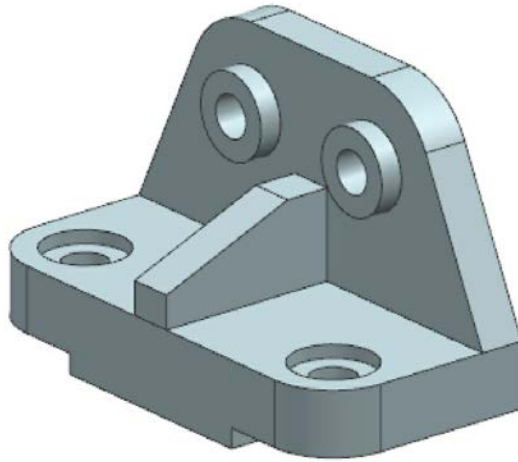
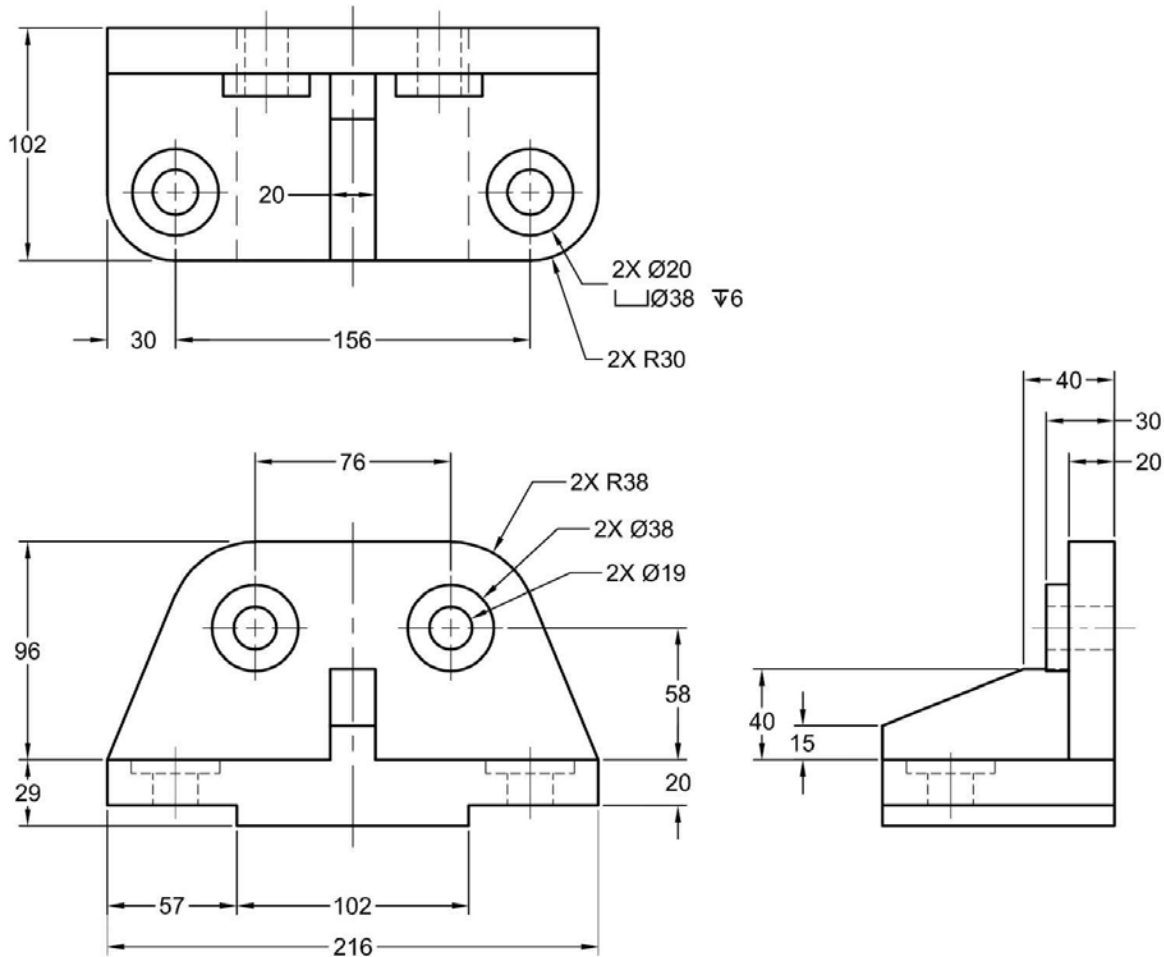
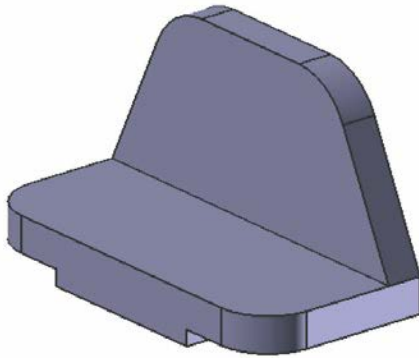
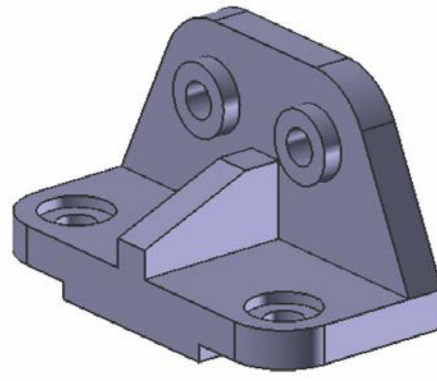

Figure 7-92 Model for Tutorial 1
Figure 7-93 Views and dimensions of the model
Figure 7-96 Model after creating the edge blend feature
Figure 7-101 Final model for Tutorial 1
In this tutorial, you will create a model of the Fixture Base shown in Figure 7-92. The dimensions of the model are shown in Figure 7-93. **(Expected time: 30 min)**
- Create the edge blend feature to fillet the two vertical edges of the base feature, refer to Figure 7-96.
2. Create the sketch for the base feature on the XC-ZC plane. For dimensions, refer to Figure 7-93. Make sure that the sketch is symmetric about the YC-ZC plane because it will be used as the mirror plane at a later stage. Extrude the sketch symmetrically on both sides of the sketching plane through a symmetric distance of **51**. The base feature of the model along the XC-ZC plane is shown in Figure 7-94.
1. Create the second feature, which is an extruded join feature by using the back face of the base feature as the sketching plane, refer to Figure 7-95. For dimensions, refer to Figure 7-93.
1. Create the edge blend feature on the front vertical edges of the base feature, refer to Figure 7-96. For dimensions, refer to Figure 7-93.
1. Invoke the **Hole** dialog box by choosing the **Hole** tool from the **Feature** group and specify the parameters of the counterbore hole in it. Refer to Figure 7-93 for parameters.
1. Select the front face of the second feature and then draw the sketch of the extruded join feature, which is a circle. For dimensions, refer to Figure 7-93.
1. Invoke the **Hole** dialog box and specify the parameters of the simple hole in it, refer to Figure 7-93 for parameters.
1. Create the last feature, which is also an extruded join feature. The sketch of this feature will be drawn on the YC-ZC plane and will be extruded symmetrically. For dimensions, refer to Figure 7-93. The final model after creating this feature is shown in Figure 7-101.